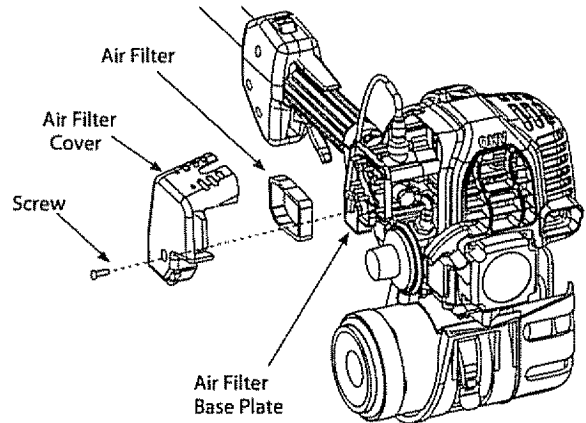

Fig 21
1. Remove phillips head screw in air filter cover. Then pull the air filter cover out and upwards (Fig. 21).
2. Remove the air filter (Fig. 21).